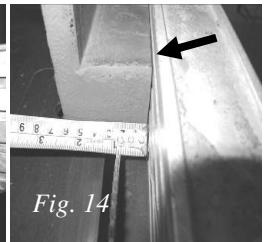

Fig. 14
2. Place the WDT with the base down, and the back face against the fence (Fig 14).